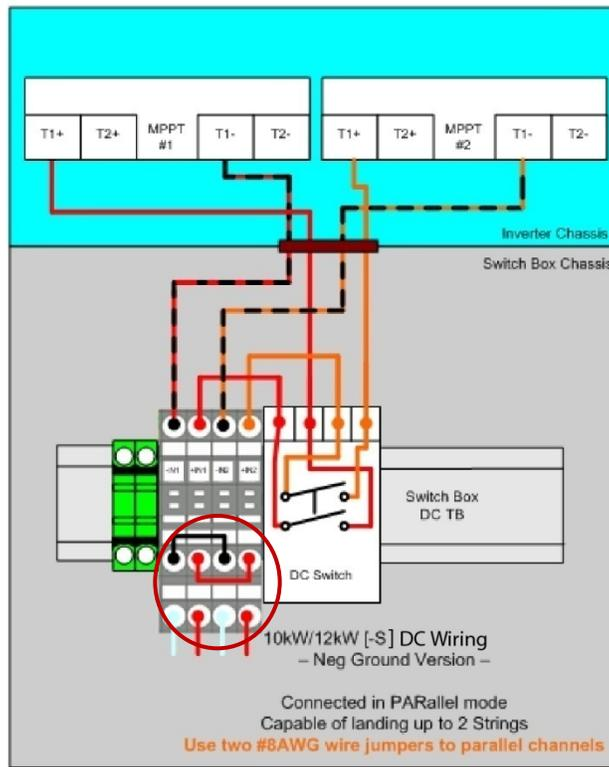

Figure 2.14b - Switchbox Jumpers for Parallel MPPT Input Connection
- Parallel the two MPPT inputs using terminal [-IN1 and -IN2] and [+IN1 and +IN2] as shown in Figure 2.14b using two #10 AWG jumper wires (1 black and 1 red cable) to connect the input.
- After switching the AURORA Inverter to parallel mode configuration, re-install the front panel (apply 13.2 in-lbs of torque to each of the four (4) screws).